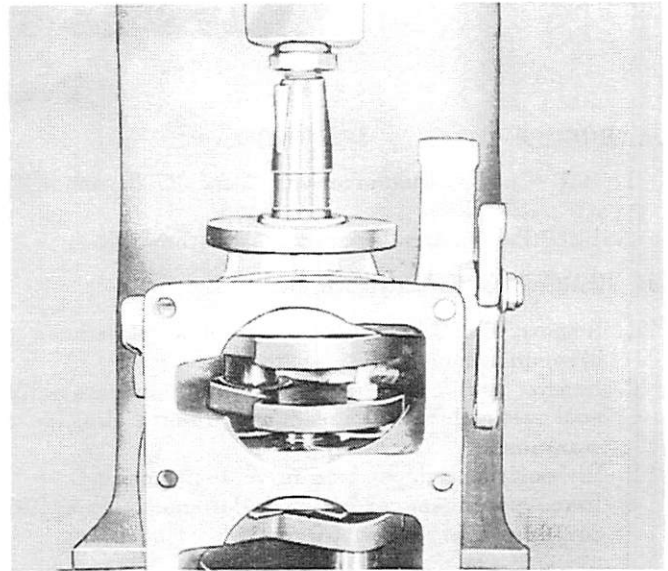

Figure 6. Removing Crankshaft
2. Screw flywheel ratchet nut or lock nut temporarily on crankshaft to protect threads. (Figure 6)
3. Place "block" between upper counterweights before pressing crankshaft out to prevent springing shaft. (Figure 6)
4. Place crankshaft upper connecting rod journal and counterweight over reed valve stop screws to obtain even pressure when pressing out. (Figure 6)